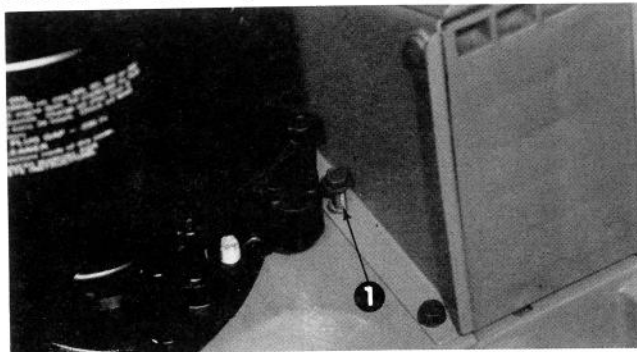

Figure 1
1. Remove grass bag. Remove left front screw that attaches discharge tunnel to housing (Fig. 1). Replace with 1/4 - 20 x 1 - 3/4 inch screw and, tighten to secure in place. (NOTE: This screw should be left in place when not using this kit.)